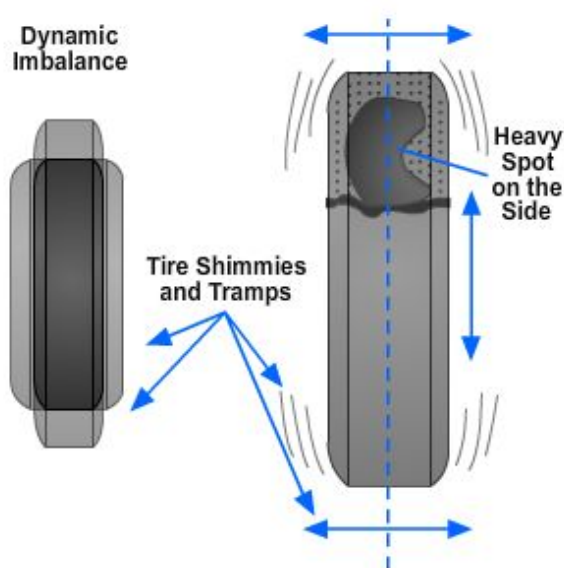

Figure 14-39 — Dynamic imbalance.
- Dynamic imbalance (*Figure 14-39*) lies on either or both sides of the center line of the tire, which causes the tire to vibrate up and down (wheel hop) and from side to side (wheel shimmy). To be in dynamic balance, the top-to-bottom weight and the side-to-side weight must all be equal.